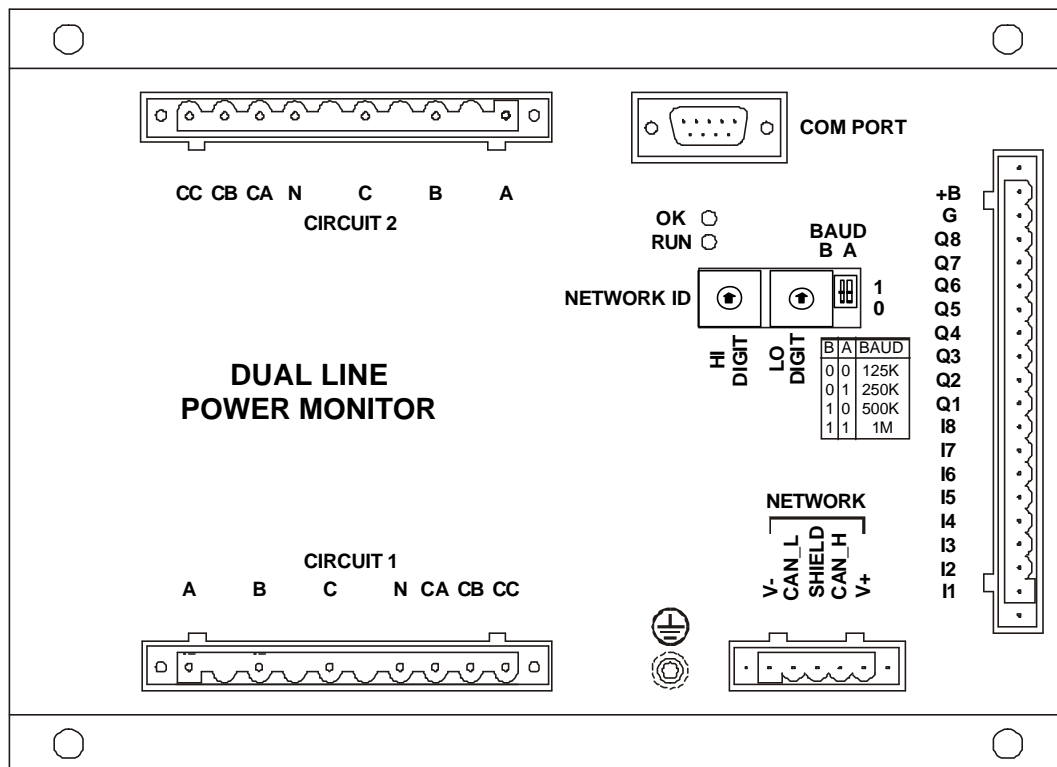

Figure 1.1 – ACM500 Dual AC Power Monitor
The AC inputs are divided into two circuits (Refer to figure 1.1 for circuit connector location). Each circuit has three voltage signals (A, B, C), which accept input voltages from 0 – 600VAC with respect to neutral (N). These inputs can be directly connected or passed through external potential transformers (PTs). If voltages greater than 600VAC are to be measured, external PTs are required.